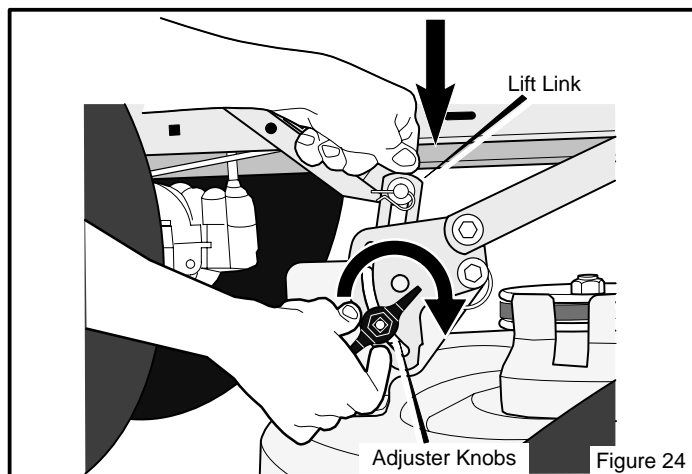

Figure 24
6. Loosen the left and right **adjuster knobs** (Figure 24). Push down on each side of the mower housing. Make sure both sides of the mower housing are setting on a flat surface. Also, make sure the lift links are loose and can easily move up or down.
7. Push down on the **lift links** and tighten the left and right **adjuster knobs** (Figure 24). Make sure the **adjuster knobs** are tight. If necessary, use a wrench to tighten the **adjuster knobs**. For plastic **adjuster knobs**, tighten to a torque of 7 foot pounds (9,5 N-m). For metal **adjuster knobs**, tighten to a torque of 10 foot pounds (13,5 N-m).